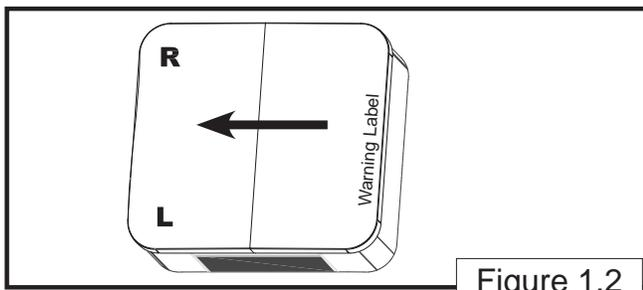

Figure 1.2
- 2a. Refer to (Figure 1.2) for the Left and Right cover lifter set orientation for (Side to Side) cover configuration:
- On a (Side to Side) cover configuration, the Left and Right cover lifter set will attach on left side of spa (Figure 1.2).